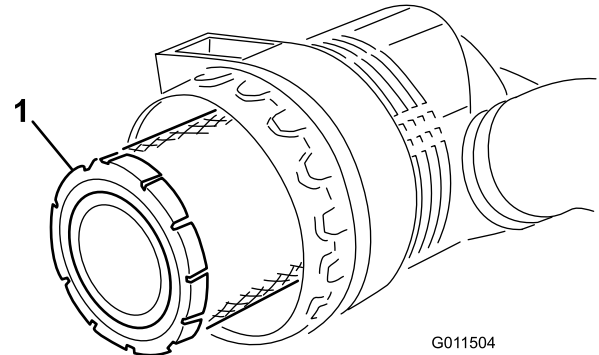

Figure 54
3. Remove and replace the primary filter (Figure 54).